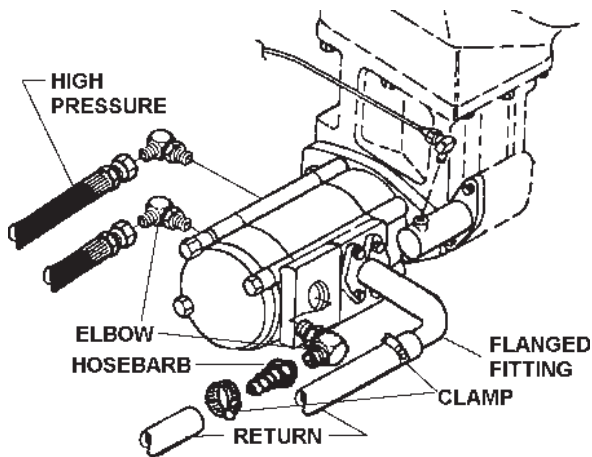

FIGURE 7.1
- (e) Install Fittings for Suction Line and Pressure Lines to Pump. Install Suction Line with Clamps provided. See Figure 7.1.